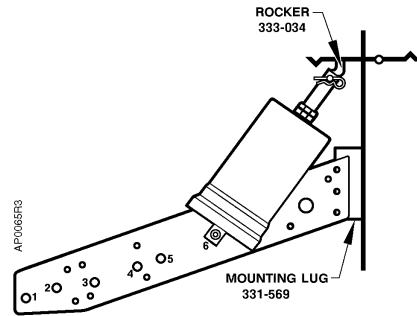

Figure 13. Frame Mounting Normally Open Damper.
- Normally closed damper: Attach the plate to the lug (Figure 13). Place the pivot post in Hole 5.